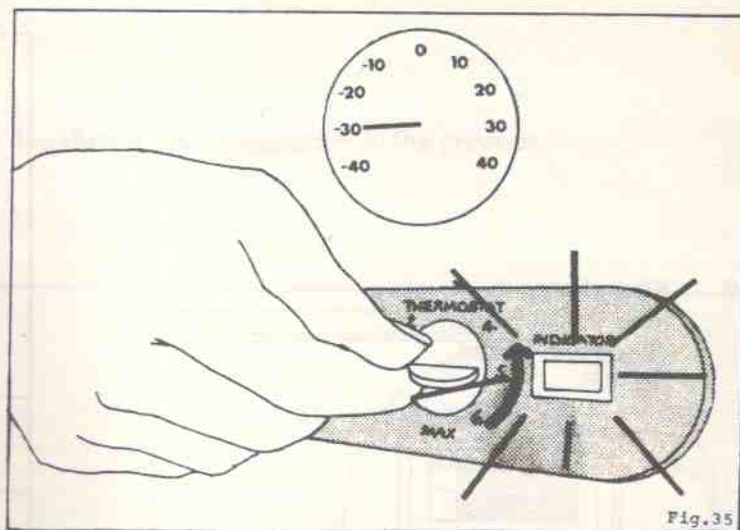

Fig. 35
- (b) If it is observed that the cabinet temperature has gone **lower** than the required range, turn the thermostat knob anti-clockwise to a lower setting (fig. 35). Observe for several hours. Select more lower setting, if required, until the required temperature range is obtained and the same remains steady.